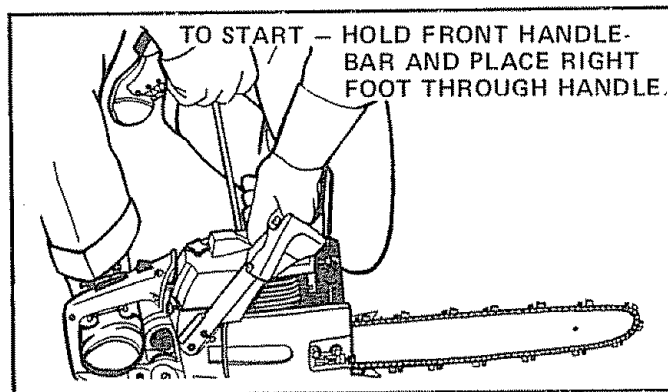

Figure 14
- a. Hold saw firmly with the saw chain free to turn without contacting any object. Figure 14.